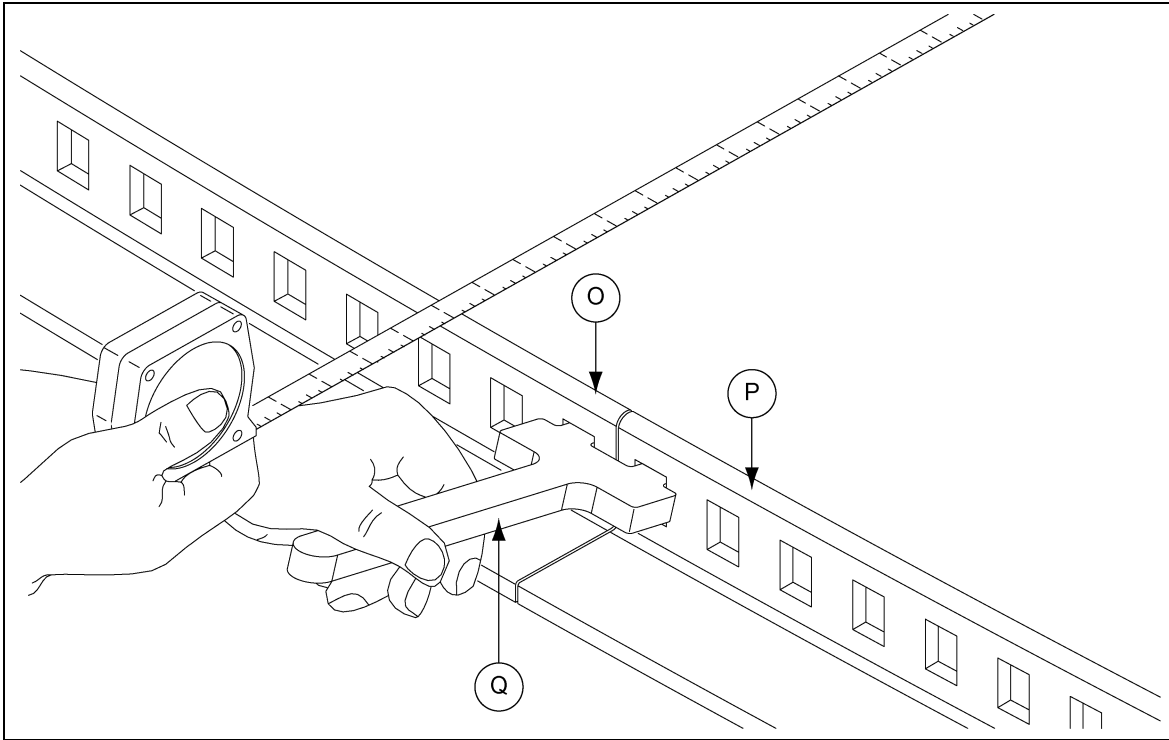

Figure 5C
8. Place each section of track in position around the center well, aligning the inside track edges (P) with the marks in the bin floor. Using the tape measure, ensure each track section has the proper measurement. *(See Figure 5C.)*